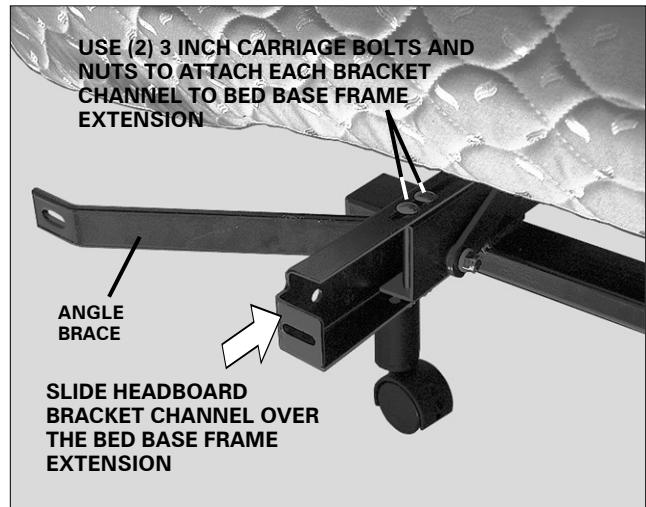
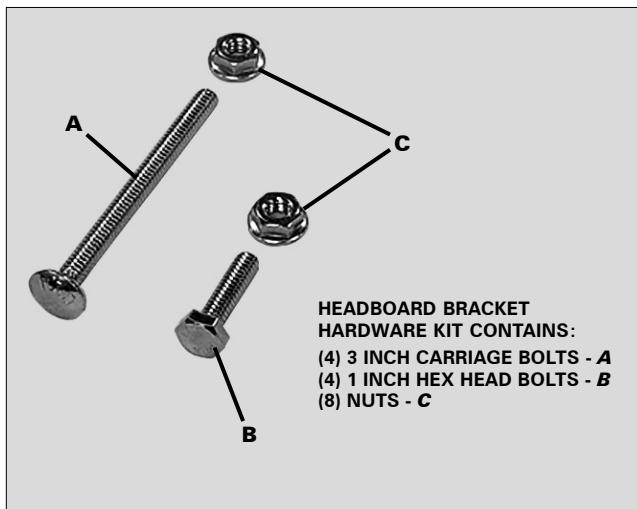

FIGURE 9: Headboard bracket channel installation (one each side of the head section of the bed).
FIGURE 8: Headboard bracket hardware (not included with Pro-Motion™ and Profile products).
- Slide one headboard bracket channel onto one side of the bed base frame. Using (2) bolts/nuts (FIGURE 8) attach channel to base frame (FIGURE 9). Hand tighten bolts/nuts (loosely) to allow adjustment of the headboard bracket channels. Repeat procedure to install the other headboard bracket channel to the other side.*
QUEEN SIZE HEADBOARD BRACKET ASSEMBLIES ARE SHOWN. TWIN SIZE HEADBOARD BRACKETS (OR SMALLER) ARE NOT EQUIPPED WITH ANGLE BRACE (FIGURES 9 and 10).